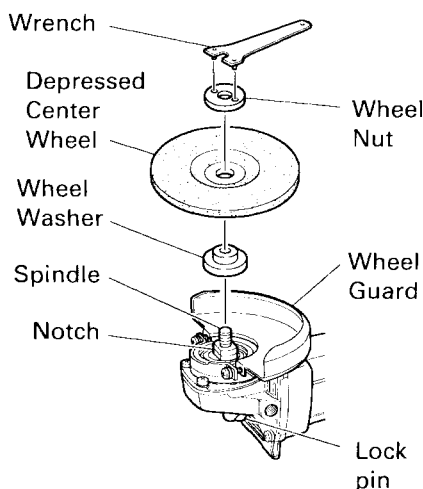

Fig. 3
- (1) Turn the disc grinder upsidedown so that the spindle is facing upward.
- (2) Align the oval-shaped indentation of the wheel washer with the notched part of the spindle, then attach them.
- (3) Fit the protuberance of the depressed center wheel onto the wheel washer.
- (4) Screw the wheel nut onto the spindle.
- (5) While pushing the lock pin with one hand, lock the spindle by turning the depressed center wheel slowly with the other hand. Tighten the wheel nut by using the supplied wrench as shown in Fig. 3.